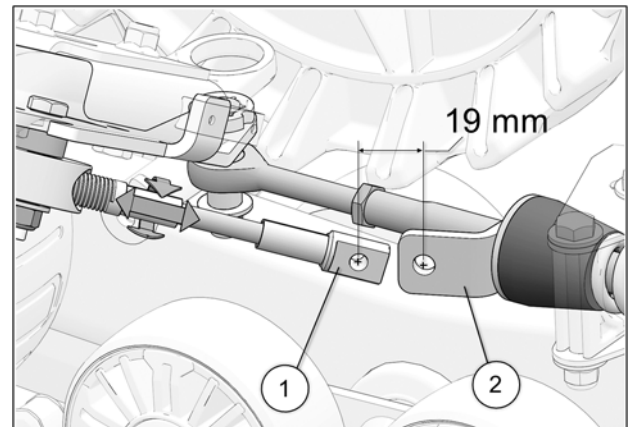

Fig. 25
14. Turn the vehicle's steering wheel to its maximum point of travel on the left. While maintaining pressure on the steering wheel, turn threaded rod to adjust length of cable. See Fig. 25
15. Position cable end hole (1), 19 mm [$\frac{3}{4}$ in.] short of the support plate (2) mounting hole. See Fig. 25